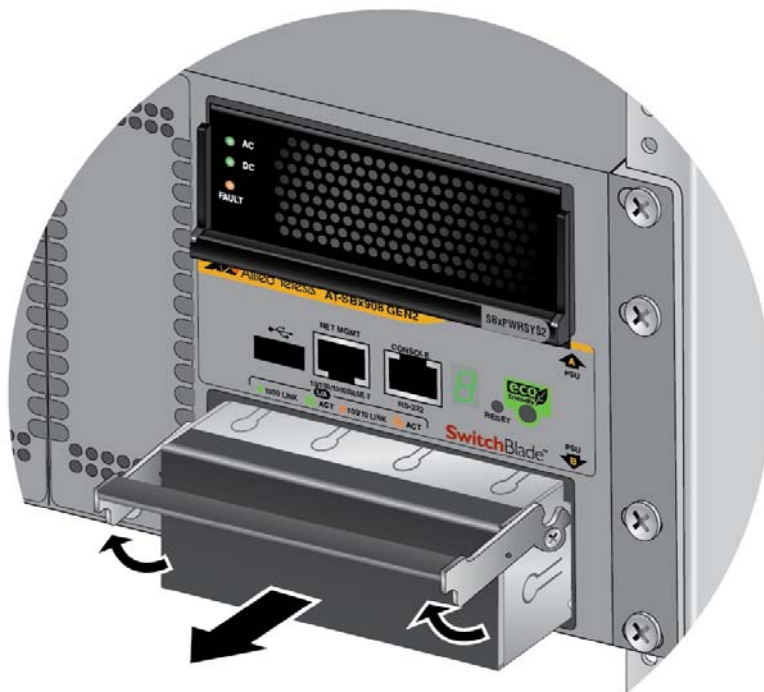

Figure 33. Removing the Blank Power Supply Panel from Power Supply Slot B
2. If there is already a power supply in PSU A, lift the handle on the blank power supply panel in PSU B and slide the panel from the slot. Refer to Figure 33 on page 72.